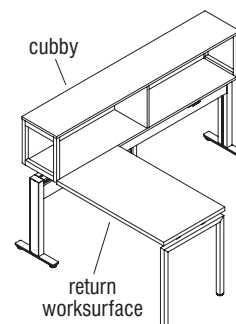
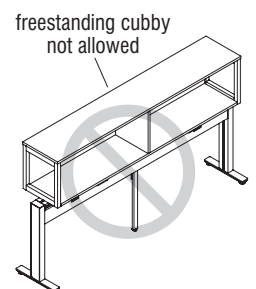

Figure 16
Figure 17
- Rail assemblies with cubbies, must have perpendicular support of a return worksurface (Figure 16). Rail assembly cubbies may not be freestanding (i.e. standalone) (Figure 17).